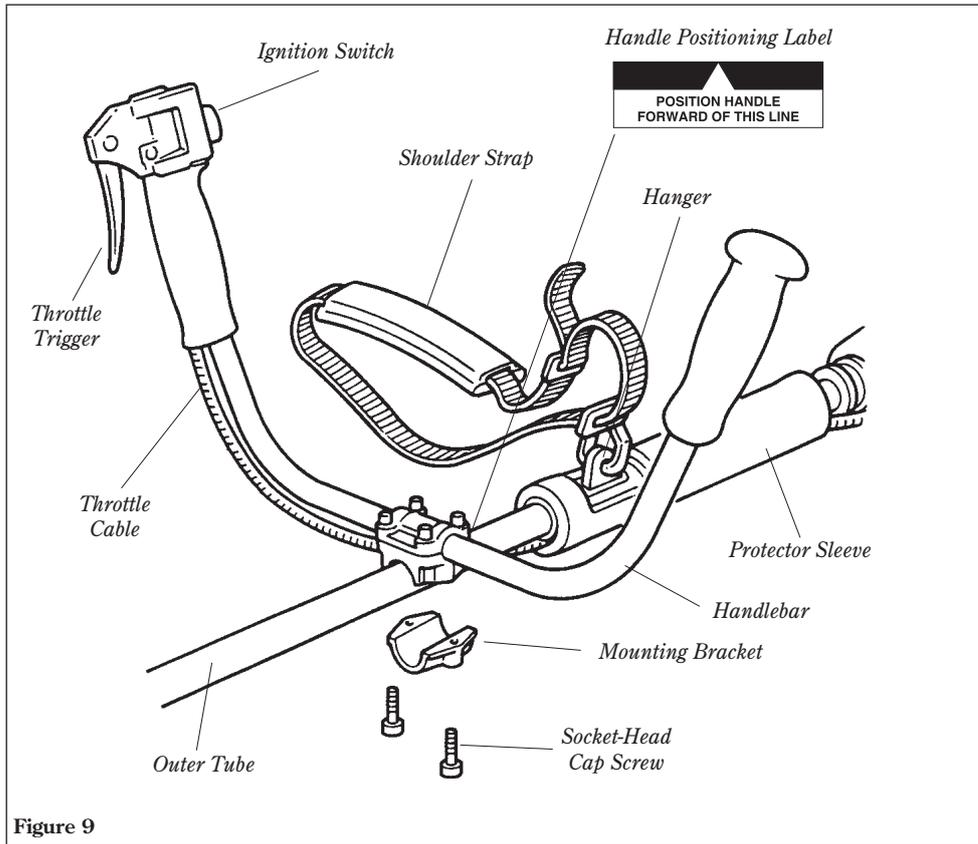

Figure 9
1. Position the handle over the outer tube. See Figure 9. Make sure the throttle lever is on the right-hand side of the outer tube.
5. Route the ribbed throttle cable tube along the handlebar and outer tube. See Figure 9. Install the protector sleeve on the outer tube.